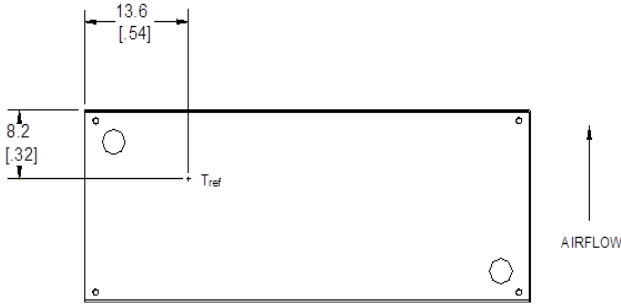
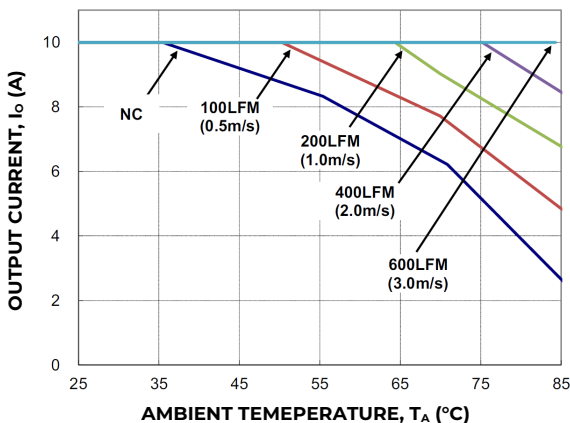

**Figure 13.  $T_{\text{ref}}$  Temperature Measurement Locations for Open Frame Module.**
**Figure 14.  $T_{ref}$  Temperature Measurement Location for Module with Heatplate.**
To provide protection under certain fault conditions, the unit is equipped with a thermal shutdown circuit. The unit will shutdown if the thermal reference point,  $T_{ref}$ , exceeds 135°C (Figure 13, typical) or 120 °C (Figure 14, typical), but the thermal shutdown is not intended as a guarantee that the unit will survive temperatures beyond its rating. The module will automatically restart upon cool-down to a safe temperature.
The thermal reference points,  $T_{\text{ref1}}$ , and  $T_{\text{ref2}}$  used in the specifications for open frame modules are shown in Figure 13. For reliable operation these temperatures should not exceed 124 °C & 121 °C respectively
The thermal reference point,  $T_{ref}$ , used in the specifications for modules with heatplate is shown in Figure 14. For reliable operation this temperature should not exceed 98°C.